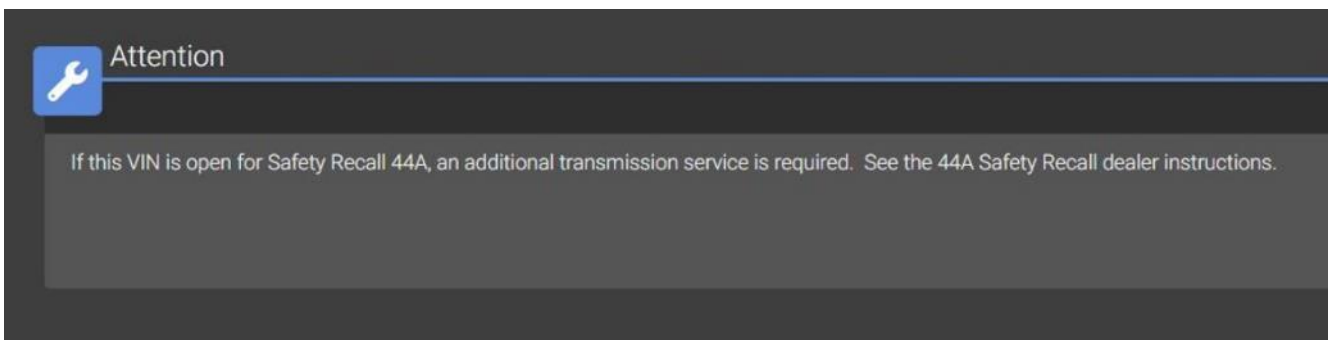

Figure 1 – wiTECH Popup Message
7. Did a wiTECH message pop-up appear stating “**If this VIN is open for Safety Recall 44A, an additional transmission service is required. See the 44A Safety Recall dealer instructions.**”? (Figure 1)